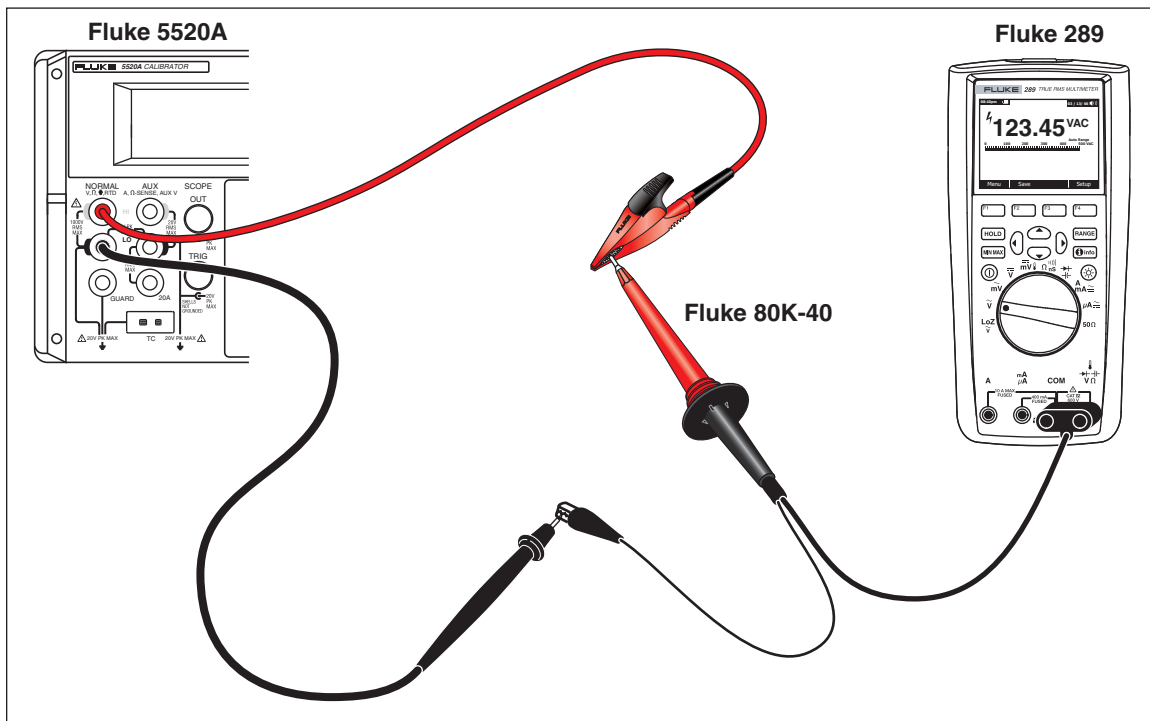

Figure 3-21. HV Probe Calibration Connections
1. Connect the HV Probe between the multifunction calibrator and a digital multimeter input as shown in Figure 3-21.